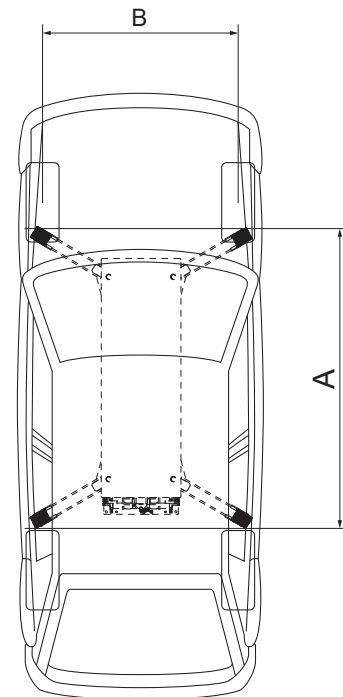

Fig. 2
- Minimum distance between lifting points (A): 1400 mm (Fig. 2).
- Minimum wheel track (B): 1000 - 1700 mm (Fig. 2).